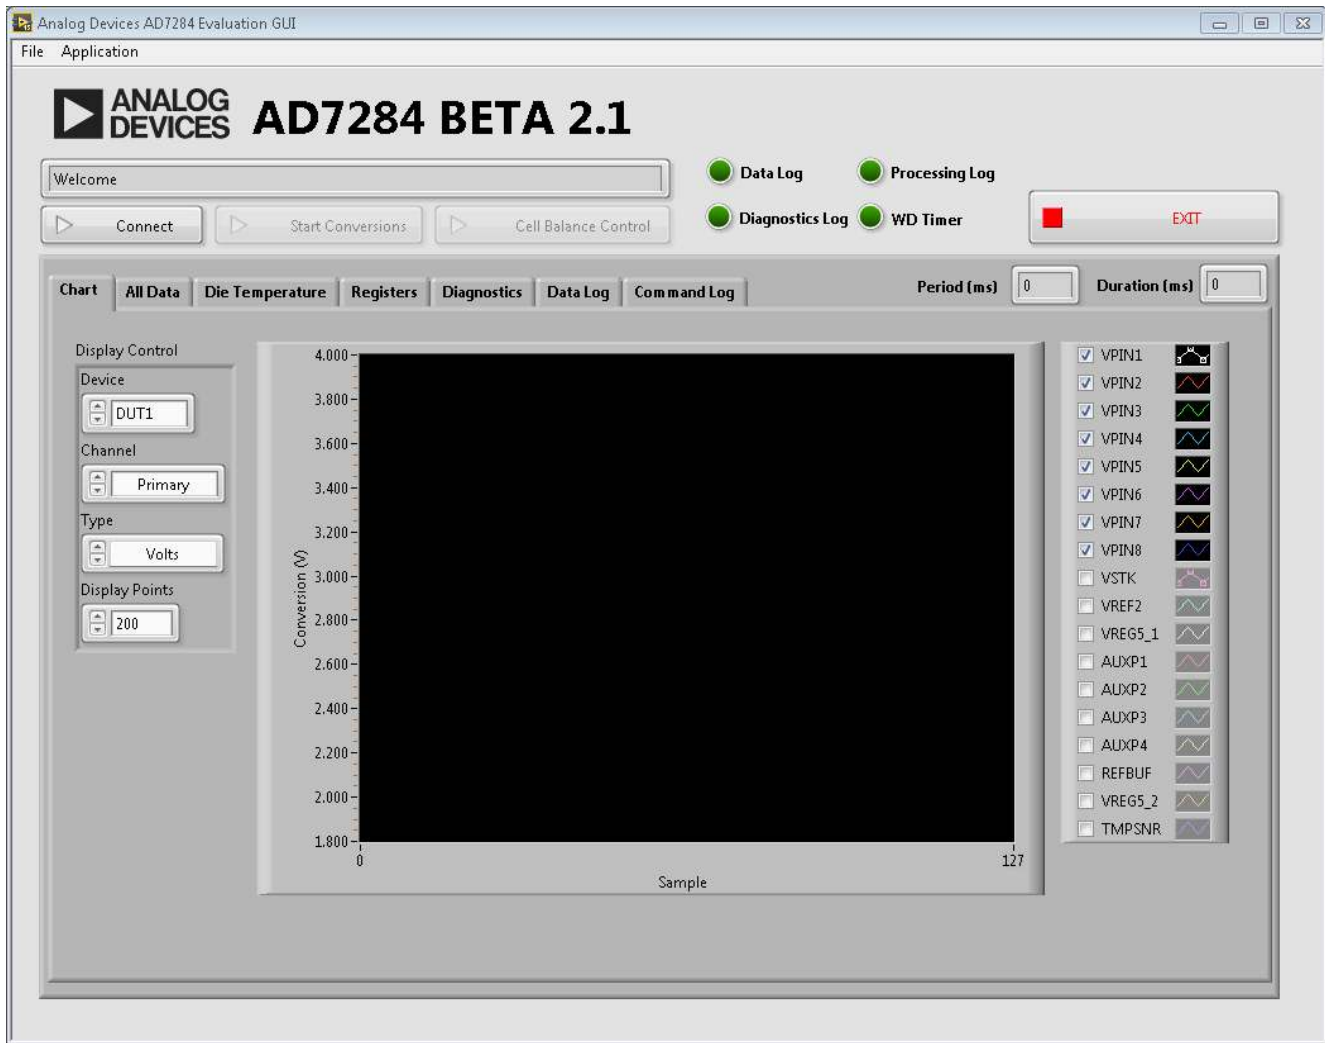
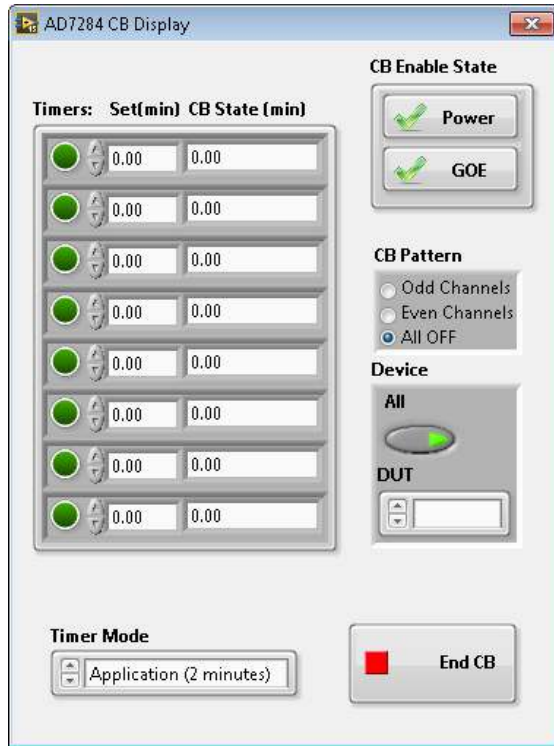

Figure 24. Evaluation Software Main Window
Figure 26. Cell Balance Control Pop-Up Window
- From the **Start** menu, Select **All Programs > Analog Devices > Analog Devices – AD7284 > AD7284 GUI**. The main window of the software graphical user interface (GUI) displays, shown in Figure 24.
With the hardware set up, the software can control the EVAL-SDP-CB1Z and the AD7284 evaluation board. From the **Start** menu, select **All Programs > Analog Devices > Analog Devices – AD7284 > AD7284 GUI**. The main window of the software GUI displays, shown in Figure 24. The main function of this window is to allow the user to read samples from the evaluation board and display them.
Click **Cell Balance Control** (see Figure 24) to display the Cell Balance Control window, shown in Figure 26.